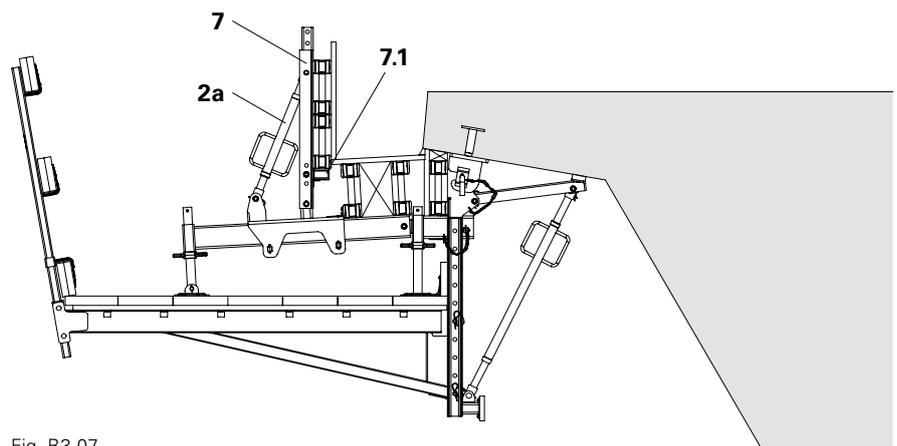

Fig. B3.07
1. Place the Side Formwork on the Beam Support (7.1) and slab formwork, and fix to Formwork Post VGK 70 (7) with wood screws.
2. Align Formwork Post VGK 70 (7) with Kicker AV 82 (2a). (Fig. B3.07)